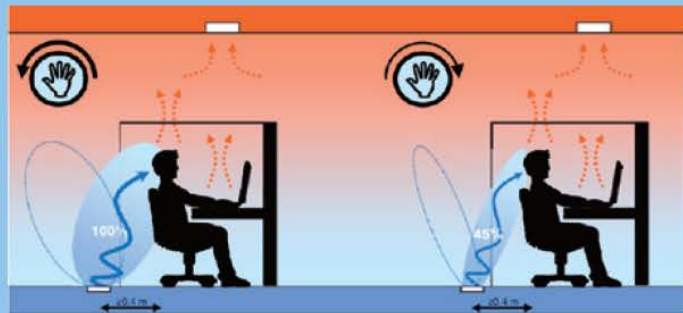

Figure 4
• **Option "E = Electrical VAV"** (figure 4)
- 6 Quiet operation: ≤36 dB(A) sound power level @ 25 Pa (0.100 in wg), depending on damper setting.
- Optional Configuration "E = Electrical VAV" (figure 4):